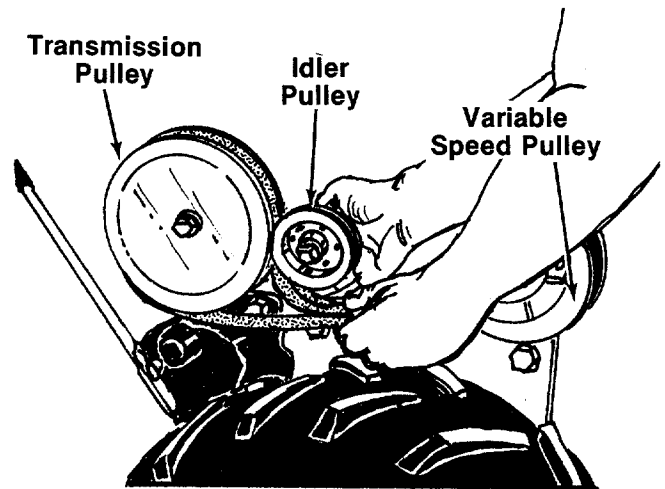

FIGURE 28.
- Lift up on the idler pulley by hand, and remove the belt from beneath the idler pulley. Lift belt off the transmission pulley and variable speed pulley. See figure 28.